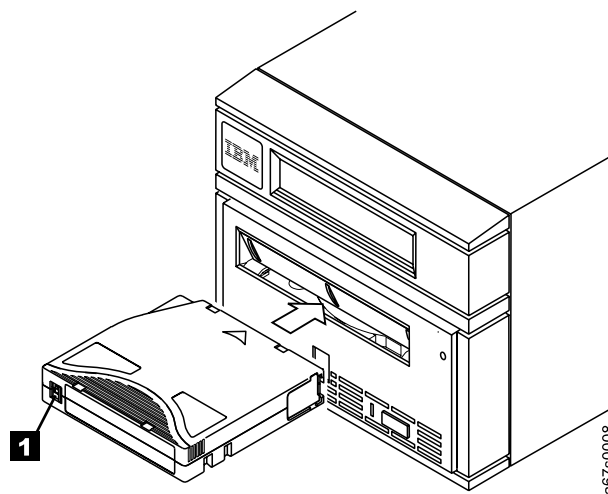

Figure 6. Inserting a cartridge into the 3580 Tape Drive
2. Ensure that the write-protect switch ( **1** in Figure 6) is properly set (see “Setting the Write-Protect Switch” on page 28).
4. Slide the cartridge into the tape load compartment (see Figure 6). The cartridge loader draws the cartridge into the tape drive and the following message appears on the message display:
To clean the head, insert the cleaning cartridge into the tape load compartment (see Figure 6 on page 21). The tape drive performs the cleaning automatically. The cleaning cycle takes less than 2 minutes. When the cleaning is finished, the drive ejects the cartridge.
With each 3580 Tape Drive, a specially labeled IBM LTO Ultrium Cleaning Cartridge is supplied to clean the drive heads. The drive itself determines when a head needs to be cleaned. It alerts you by displaying **C** on the single-character display and turning off the status light. To clean the head, insert the IBM LTO Ultrium Cleaning Cartridge into the tape load compartment (see Figure 6 on page 21). The tape drive performs the cleaning automatically. When the cleaning is finished, the drive ejects the cartridge.